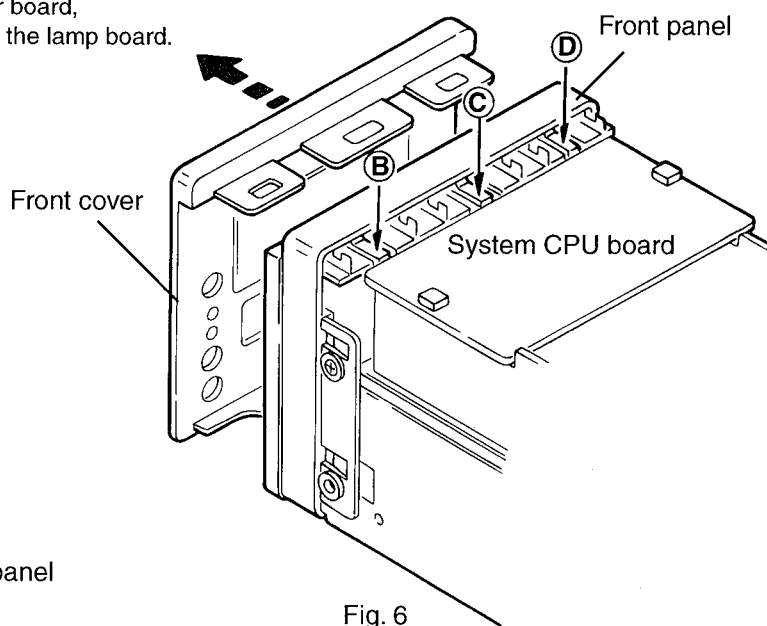

Fig. 6
2. From upperside of front panel, push the three engagements "B,C,D" and disengage them. (See Fig. 6)